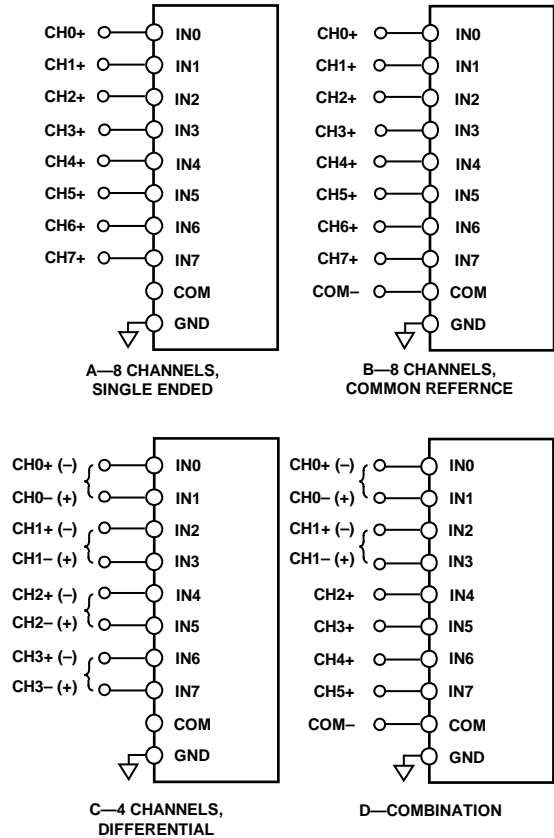

Figure 32. Multiplexed Analog Input Configurations
Figure 32 shows the different methods for configuring the analog inputs with the configuration register, CFG[12:10]. Refer to the Configuration Register, CFG section for more details.
- Figure 32 (A), single-ended referenced to system ground, $CFG[12:10] = 111_2$. In this configuration, all inputs (IN[7:0]) have a range of GND to V_{REF} .
- Figure 32 (B), bipolar differential with a common reference point, $COM = V_{REF}/2$, $CFG[12:10] = 010_2$. Unipolar differential with COM connected to a ground sense; $CFG[12:10] = 110_2$. In this configuration, all inputs IN[7:0] have a range of GND to V_{REF} .
- Figure 32 (C), bipolar differential pairs with the negative input channel referenced to $V_{REF}/2$, $CFG[12:10] = 00X_2$. Unipolar differential pairs with the negative input channel referenced to a ground sense, $CFG[12:10] = 10X_2$. In these configurations, the positive input channels have the range of GND to V_{REF} . The negative input channels are a sense referred to $V_{REF}/2$ for bipolar pairs, or GND for unipolar pairs. The positive channel is configured with $CFG[9:7]$. If $CFG[9:7]$ is even, then IN0, IN2, IN4, and IN6 are used. If $CFG[9:7]$ is odd, then IN1, IN3, IN5, and IN7 are used, as indicated by the channels with parentheses in Figure 32 (C). For example, for IN0/IN1 pairs with the positive channel on IN0, $CFG[9:7] = 000_2$. For IN4/IN5 pairs with the positive channel on IN5, $CFG[9:7] = 101_2$. Note that for the sequencer, detailed in the Channel Sequencer section, the positive channels are always IN0, IN2, IN4, and IN6.
- Figure 32 (D), inputs configured in any of the preceding combinations (showing that the AD7682/AD7689 can be configured dynamically).